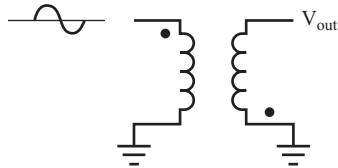

FIGURE 10.13
3. If a sine wave is fed into a transformer shown in Figure 10.13, what does the output waveform look like? \_\_\_\_\_